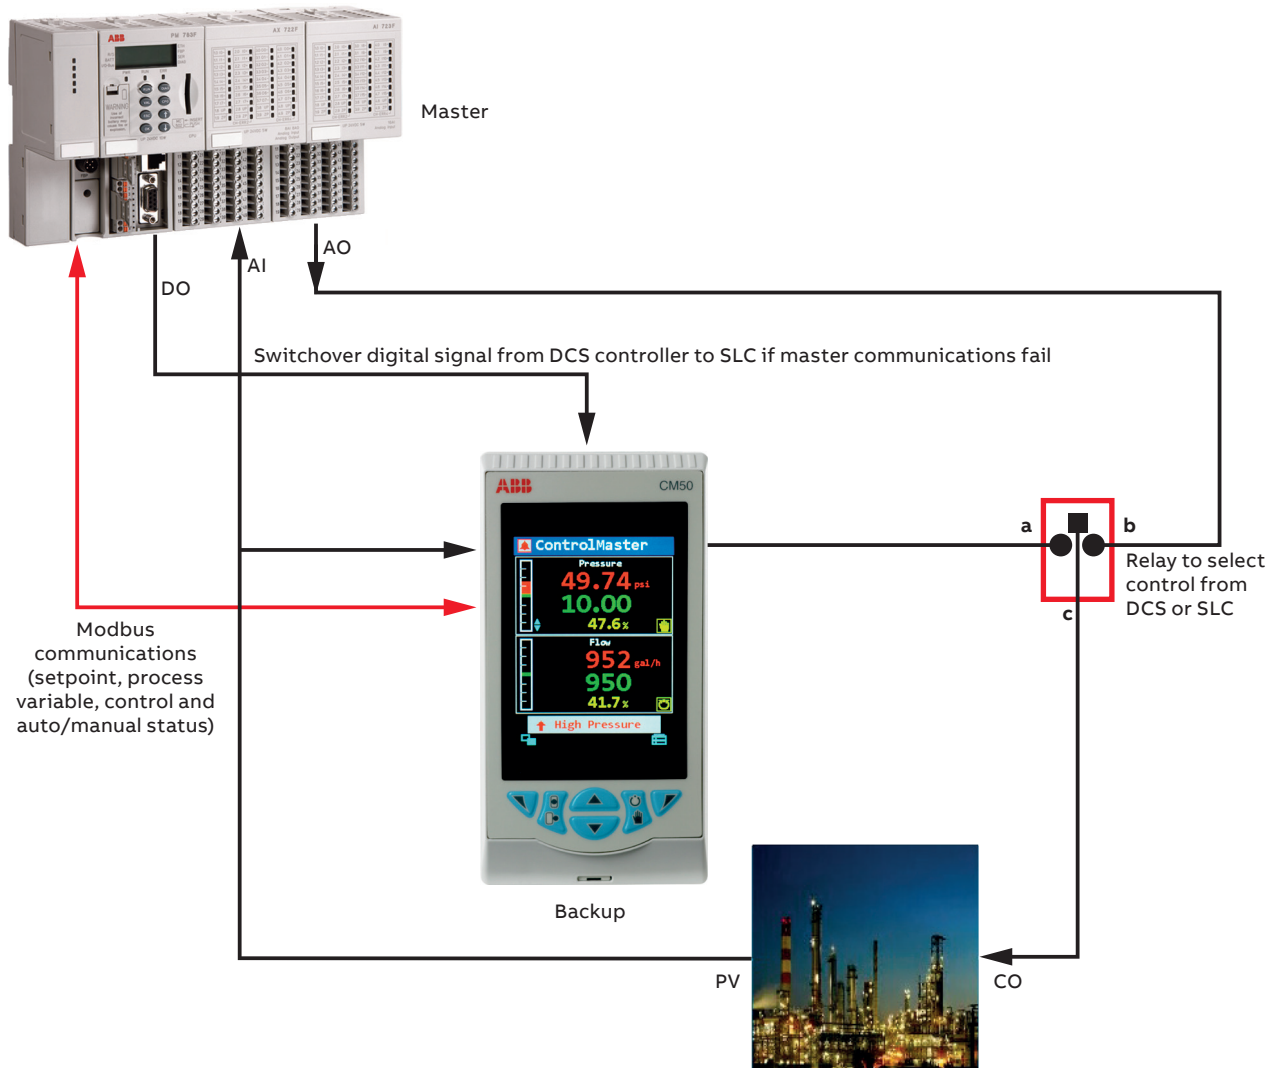
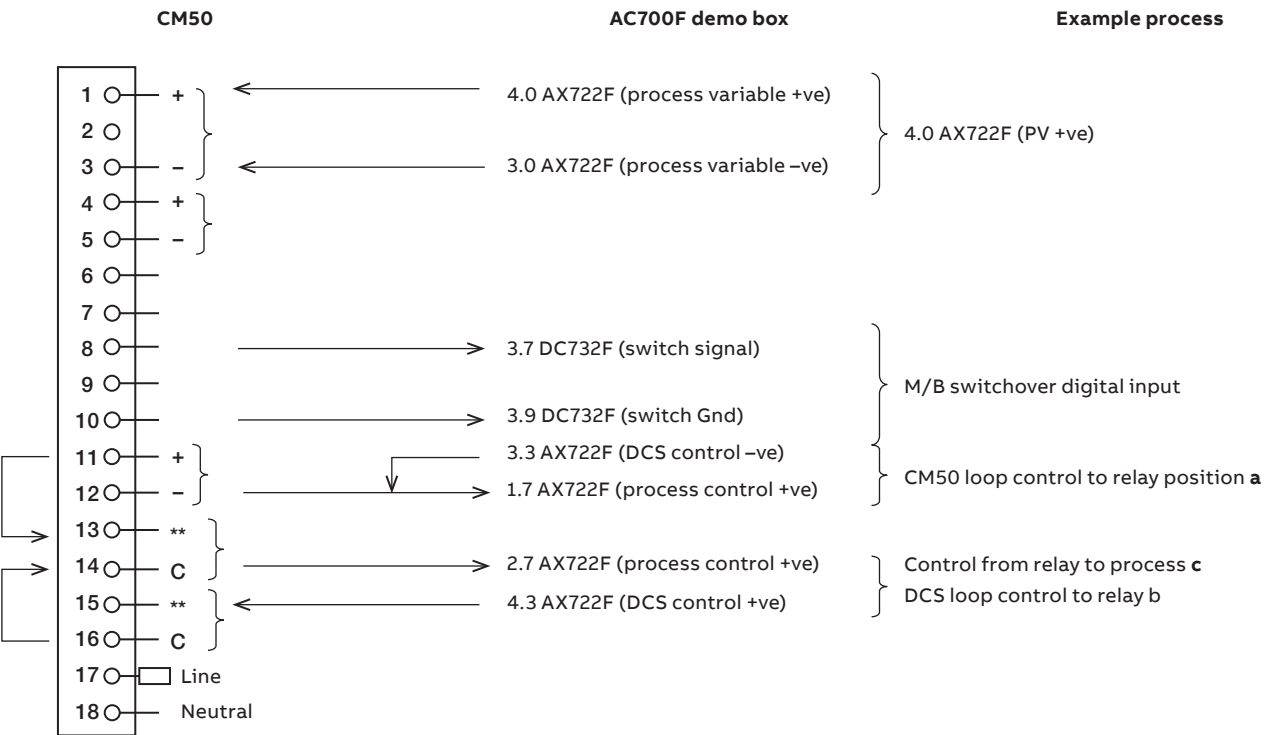

Figure 1 Application overview
Figure 5 CM50/AC700F demo box (DC-RB-AC 700F-V9) example process connections
Figure 5 shows the connections between the demo box AC700F (DC-RB-AC 700F-V9) and CM50, as well as an example process.
- References to **a**, **b** and **c** in Figure 5 refer to the relay poles in the application overview diagram – see Figure 1 on page 2.
- To use the AC700F demo box to generate the PV to the CM50, see example process connections in Figure 5.
- To create an SPDT relay, the CM50’s terminals 14 and 16 are linked. This represents relay pole **c** in the application overview diagram (Figure 1 on page 2) where the control output is directed to the process.
- The CM50’s terminals 11 and 13 are also linked; this is represented by relay pole **a** on the application overview diagram (Figure 1 on page 2).